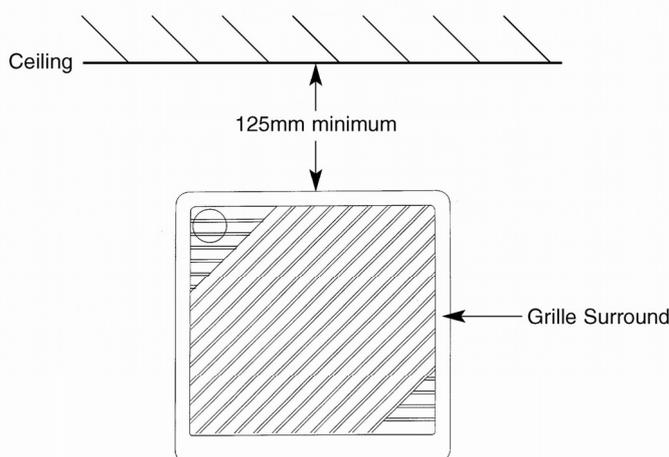

Fig.3
12. The internal grille surround must be sited at least 125mm away from the room ceiling (Fig. 3). and 300mm away from any adjacent vertical surface.